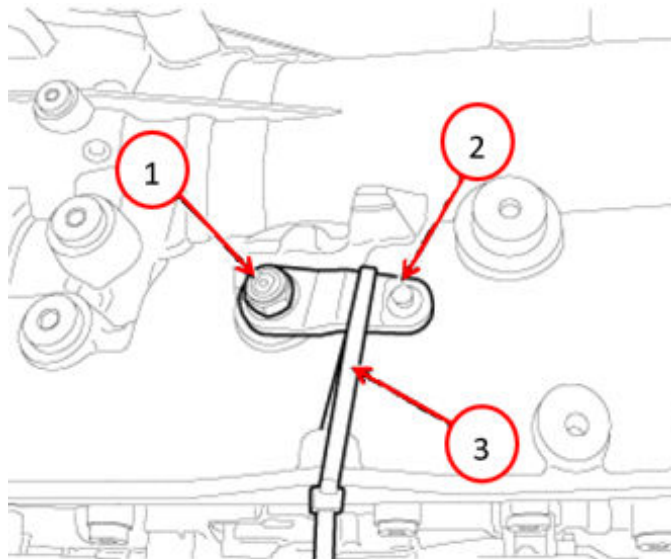

Fig. 40
60. Replace the fluid transfer tube O-rings and install the fluid transfer tube to the transmission case Fig. 40.